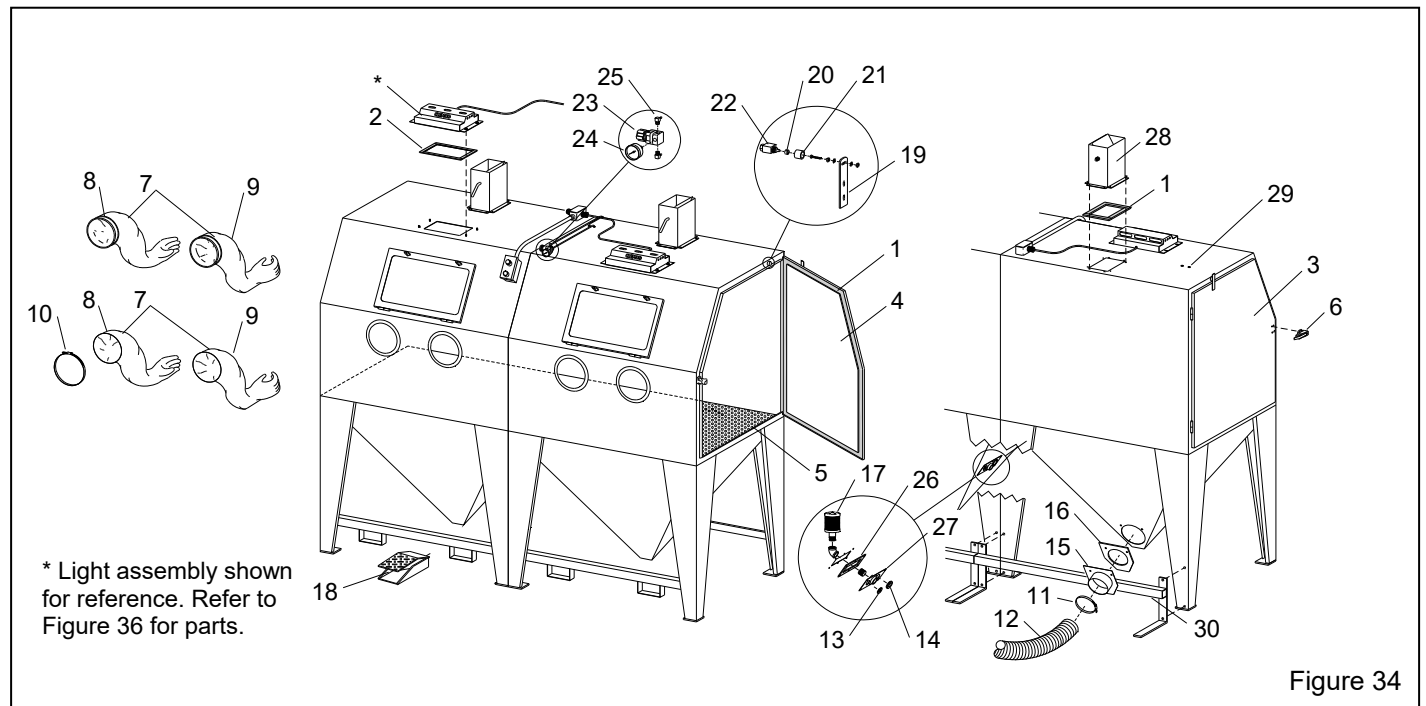

Figure 34
9.2 Cabinet Replacement Parts – Figure 34